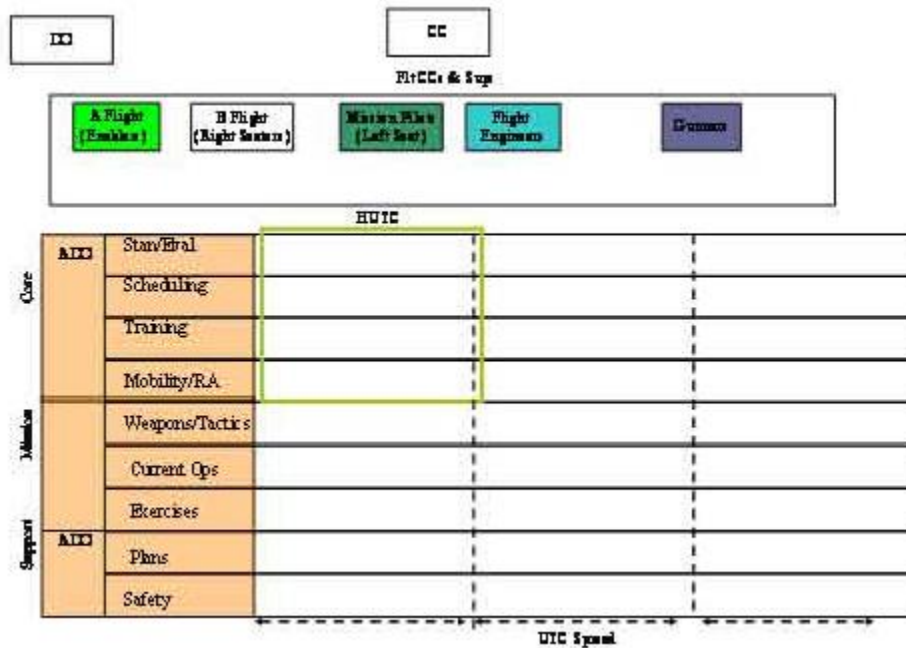

Figure 5. Matrix Organization
Step 6: Build your organization's task structure. The model in Figure 5 is the lattice on which the billets are placed. This is a generalized example for an HH-60G unit, your unit may be different. On top, the commander and DO slots have been noted, with the flight commanders underneath. All directorates have been divided into core, mission and support tasks and assigned an assistant DO (ADO). While assistant DOs are not necessarily part of the LPM, they help the DO effectively manage these tasks. The core directorates have been "roped off" and designated as the HUTC. Since the unit has three aviation UTCs, the main structure (except the HUTC) has